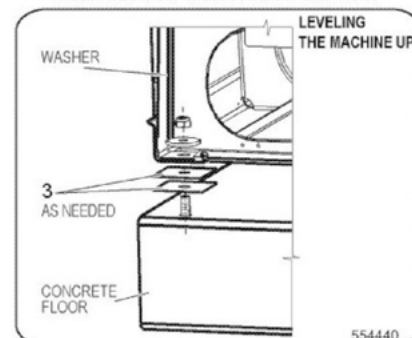

Figure 17 – Rigid-mount machines, 7 - 8 - 10 - 12 - 15 - 20 - 25 - 30 kg
- Use spacing washers in order to install the machine in a level and stable manner in all its corners. See figure 17.